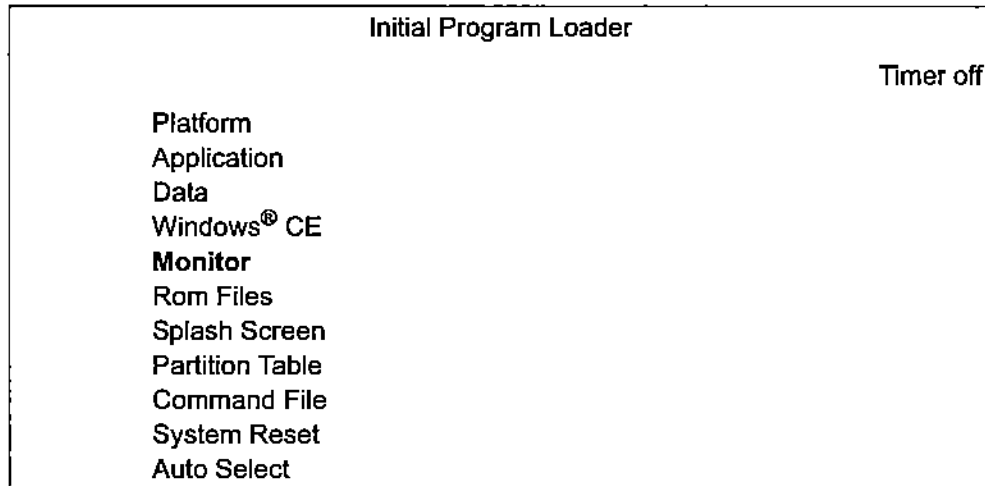

Figure F-8. IPL Mode Menu
3. **Select the Monitor upgrade mode** - see Figure F-8. Use the **A** button (Down) to scroll down to the *Monitor* option and select the option using the **C** button (Select/Action).